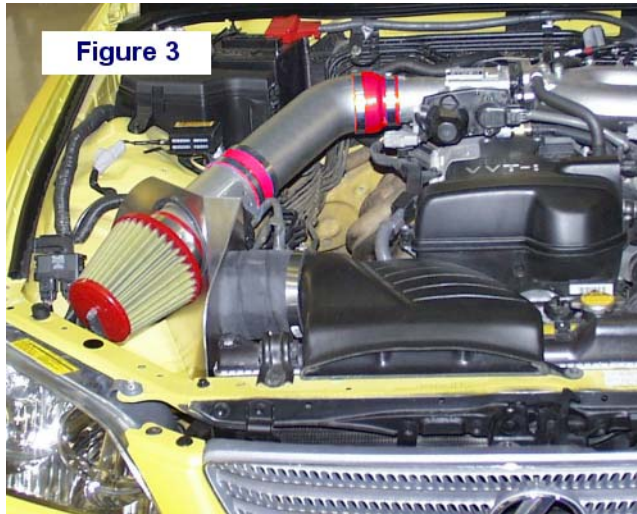

Figure 3
11. Insert the Intake tubing straight end to the MAF housing (the housing already has the 3.5" silicone hose installed) that has the red hose attached but do not tighten the clamp yet. Now take the two pieces together and position in its proper place as seen in Figure 3.
13. Attach the Air filter carefully on the MAF housing, with the outlet of the vacuum elbow facing the driver side of the car. Once the air filter is in place and your Intake system looks like Figure 3. Tighten all the clamps securely.